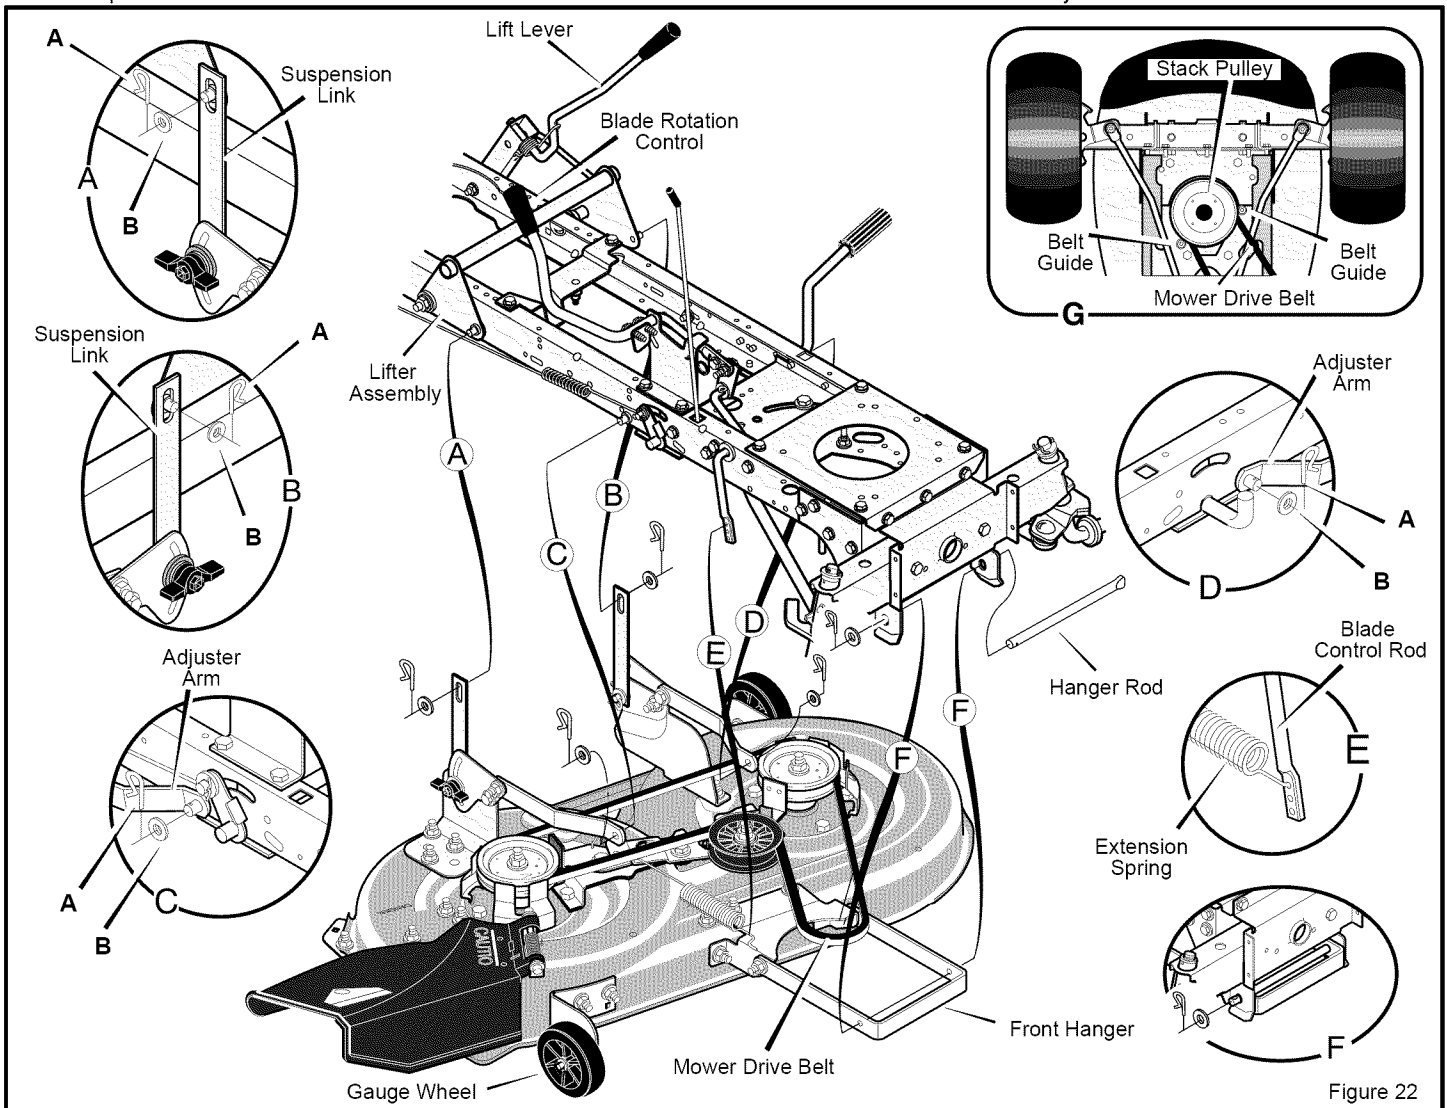

Figure 22
4. Remove the hair pins and the washers from the **adjuster arms** (Figure 22). See illustrations "C" and "D".